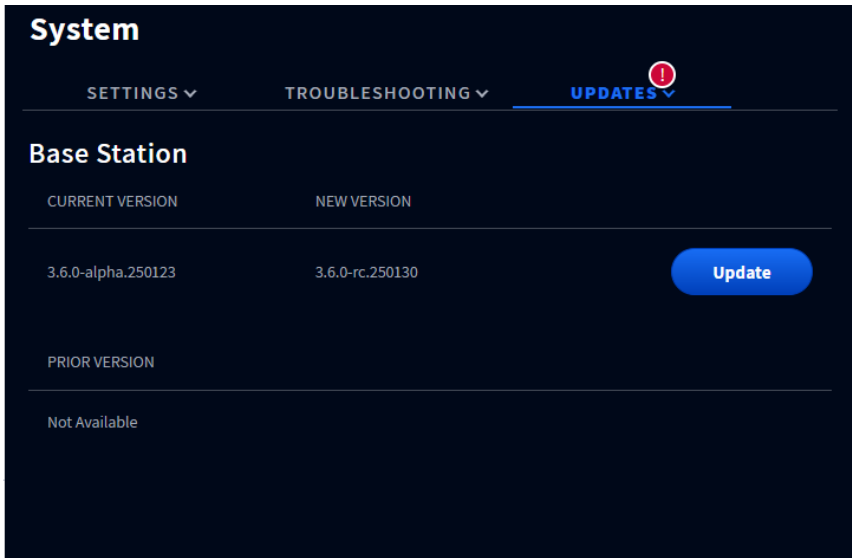

Fig. 6.6
4. Tap the  button that appears on the right. See Fig. 6.6.